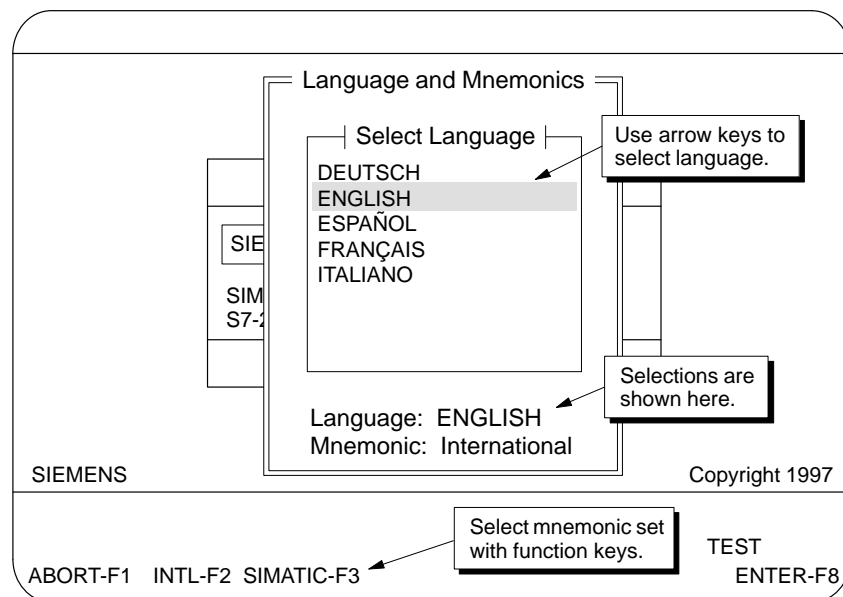

Figure 2-2 Language and Mnemonic Selection Screen
1. Press **SETUP-F2** at the start-up screen to access the language and mnemonic selection menu, shown in Figure 2-2.